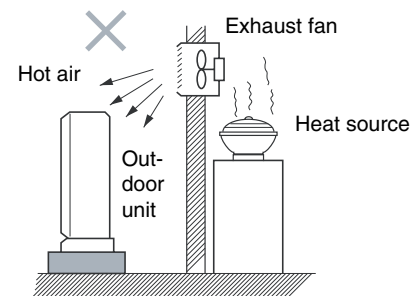

Fig. 1-1
- heat sources, exhaust fans, etc. (Fig. 1-1)